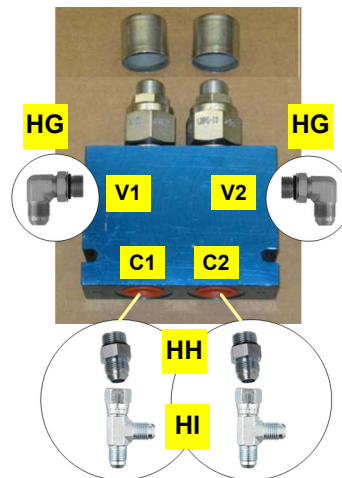

Figure 7a: CBV port fittings
- a. Prepare counterbalance valve (CBV) **HF** by installing adapter fittings as follows (Figure 7a):